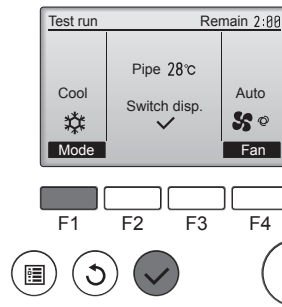

Fig. 6-5
- Press the **[F1]** button to go through the operation modes in the order of "Cool" and "Heat". (Fig. 6-5)